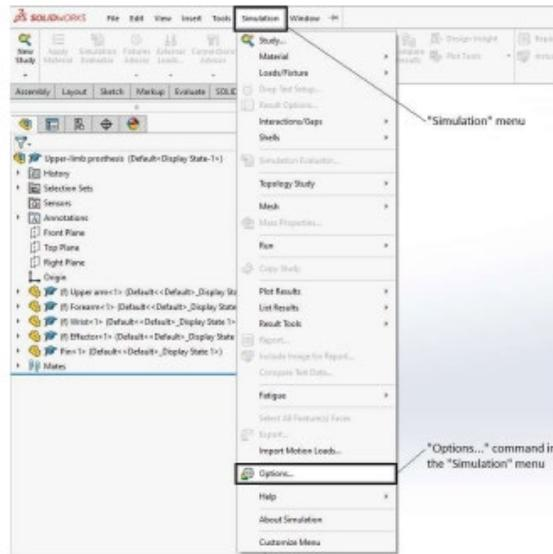
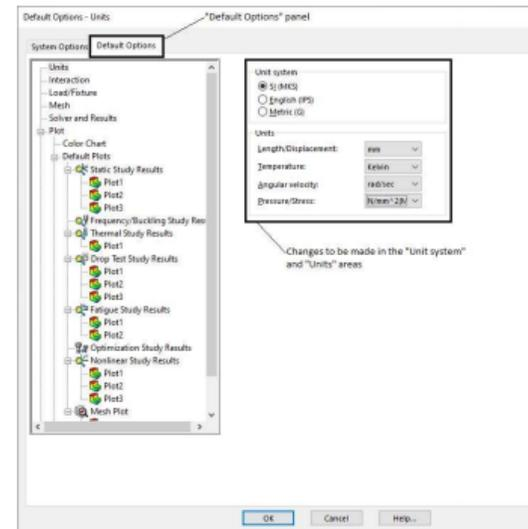

Figure 7: “Options...” command in the “Simulation” menu
Figure 8: Changes to be made in the “Default Options” panel of the “System Options – General” window
c) Change some working parameters of the SolidWorks Simulation module by accessing the “Simulation” menu and selecting the “Options...” command (Fig. 7). Consequently, the “System Options – General” window is displayed. In the “Default Options” panel, select the SI (MKS) unit system, then change the following measurement units: length/displacement [mm] and pressure/stress [N/mm²] (Fig. 8).